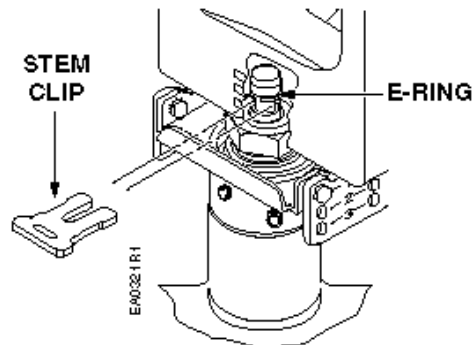

Figure 21. Location of the Stem Clip and E-ring.
5. Insert the stem clip through the bottom slot in the cage. See *Figure 21*.